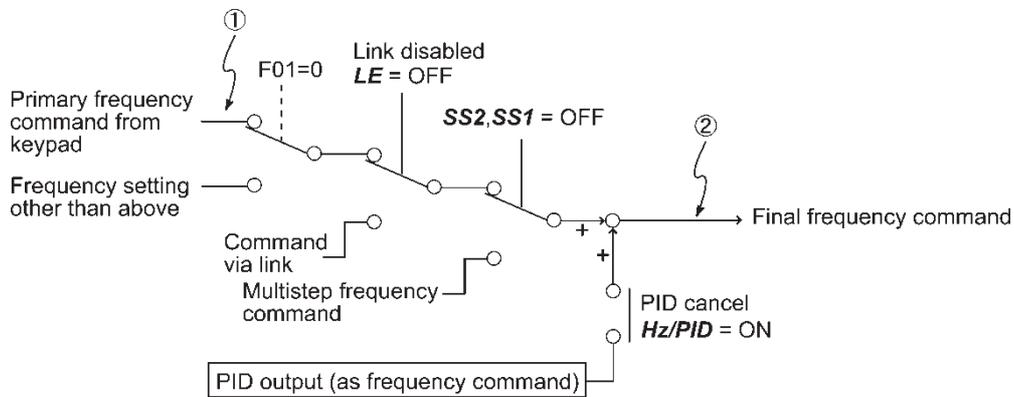

Figure 3.3-2
Table 3.3-6 lists the combinations of the commands. Figure 3.3-2 illustrates how the primary frequency command ① entered via the keypad is translated to the final frequency command ②.